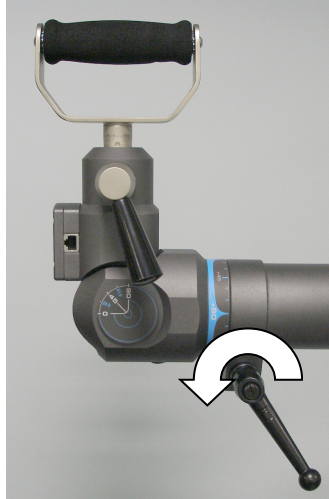

Figure 9-11. Loosen Column Arm Locking Handle
- Step 1. Turn the column arm locking handle, which is located on the right side of the arm, 1/2 turn counter-clockwise (just enough to loosen the arm) (Figure 9-11).